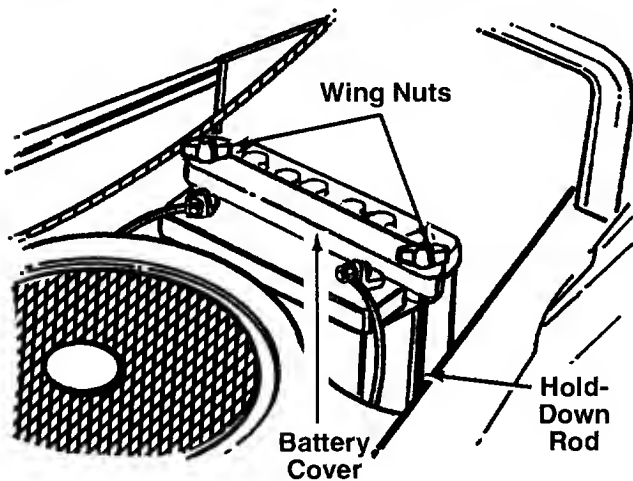

FIGURE 9.
1. Lift the hood of the tractor. Remove the wing nuts from the hold-down rods which secure the battery cover to the battery. Refer to figure 9 on page 10. Remove the battery cover. Disconnect the positive cable from the positive terminal. Save the hardware.
1. Lift the hood of the tractor. Remove the wing nuts from the hold-down rods which secure the battery cover to the battery. See figure 9.
4. Place the battery cover in position over the hold-down rods. Secure with wing nuts. See figure 9.